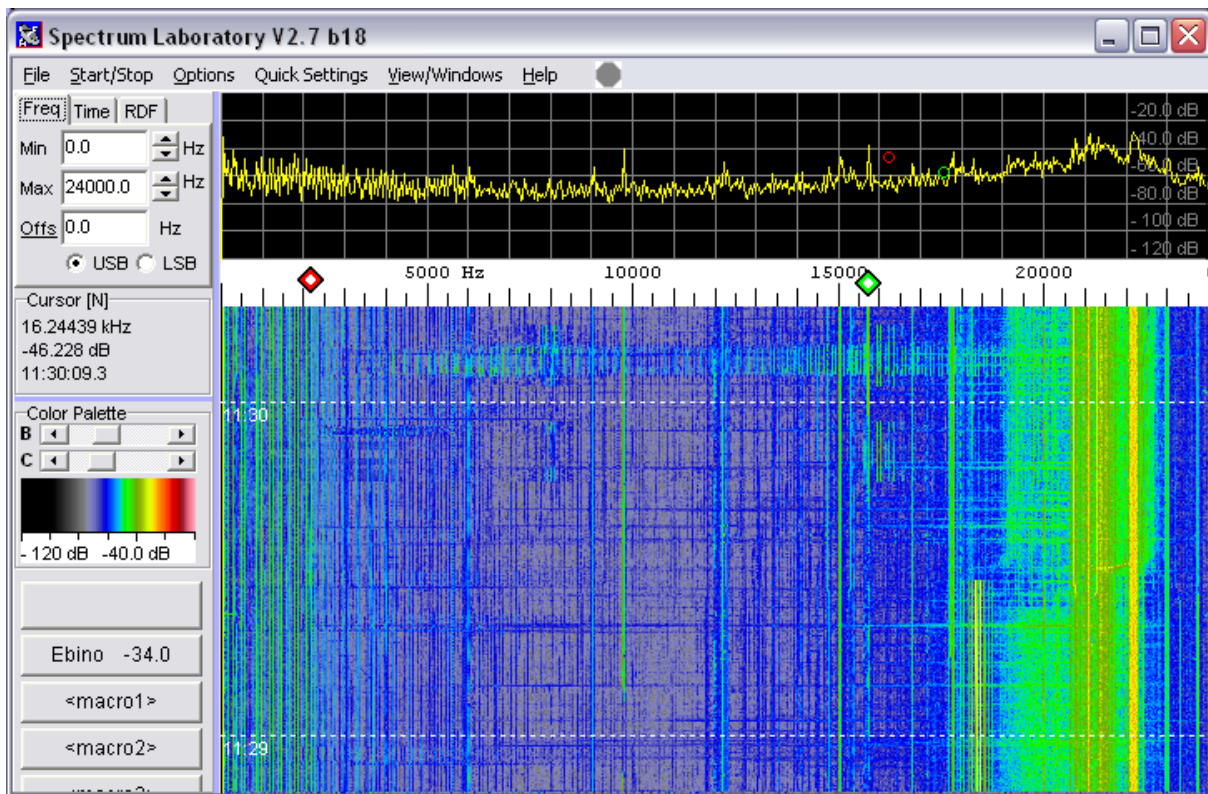

Fig 8.5. Spectrum Lab's waterfall display
Figure 8.5 is a screenshot of Spectrum Lab successfully capturing a signal from the SSRT. Check the following features:
- The frequency scale is in the white ribbon below the yellow/back graph. In Figure 8.5 it runs from 0 – 24 kHz. It can be adjusted in Spectrum Lab by clicking on the scale with the right mouse button and zooming in or out
- The background noise level becomes higher in a broad hump around the antenna's resonant frequency. In figure 8.5, this hump runs from roughly 19.5 – 22.5 kHz, which is consistent with the resonant frequency of the antenna at about 21 kHz
- There are various individual noise spikes across the waterfall (e.g. at 15 kHz in figure 8.5). These are due to local electrical apparatus giving off stray signals. Provided that these signals are not close to VLF transmission signal, and that they are not too large then they should not cause any problems. This kind of electrical noise is commonly caused by TV's, old style cathode ray tube (CRT) PC monitors, air conditioners, and kitchen appliances such as induction cookers